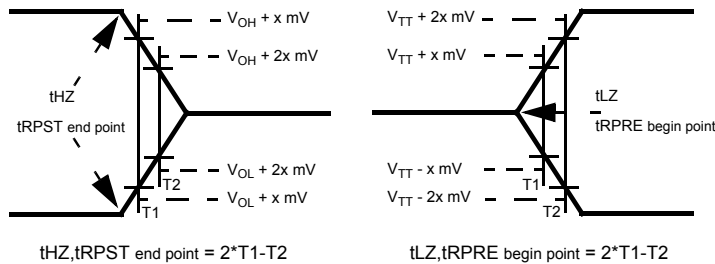

Figure 28 - tLZ and tHZ method for calculating transitions and endpoints
16.13.2.3 tLZ(DQS), tLZ(DQ), tHZ(DQS), tHZ(DQ) Calculation
tHZ and tLZ transitions occur in the same access time as valid data transitions. These parameters are referenced to a specific voltage level which specifies when the device output is no longer driving tHZ(DQS) and tHZ(DQ), or begins driving tLZ(DQS), tLZ(DQ). Figure 28 shows a method to calculate the point when device is no longer driving tHZ(DQS) and tHZ(DQ), or begins driving tLZ(DQS), tLZ(DQ) by measuring the signal at two different voltages. The actual voltage measurement points are not critical as long as the calculation is consistent. The parameters tLZ(DQS), tLZ(DQ), tHZ(DQS), and tHZ(DQ) are defined as singled ended.